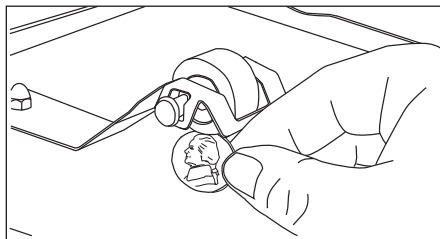

Figure 17. Check Roller Tensioners
1. Measure the Roller Tensioner on both inner Conveyor Covers using a U.S. Nickel (2.1 cm) for reference or a ruler (Figure 17).